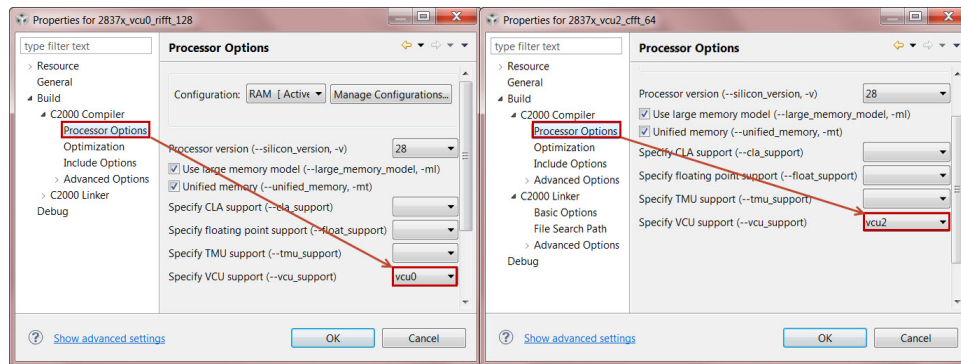

Figure 4.5: Turning on VCU support
2. Enable the **-vcu\_support** option in the **Runtime Model Options** to either **vcu0** or **vcu2** depending on the library used (Fig. 4.5).